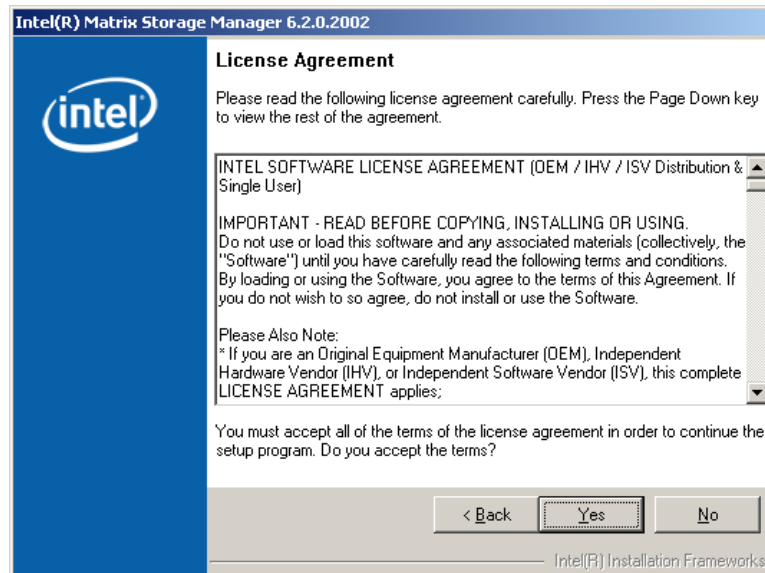

Figure 7-37: Matrix Storage Manager License Agreement
Step 9: Click **NEXT** and a license agreement appears (**Figure 7-37**).